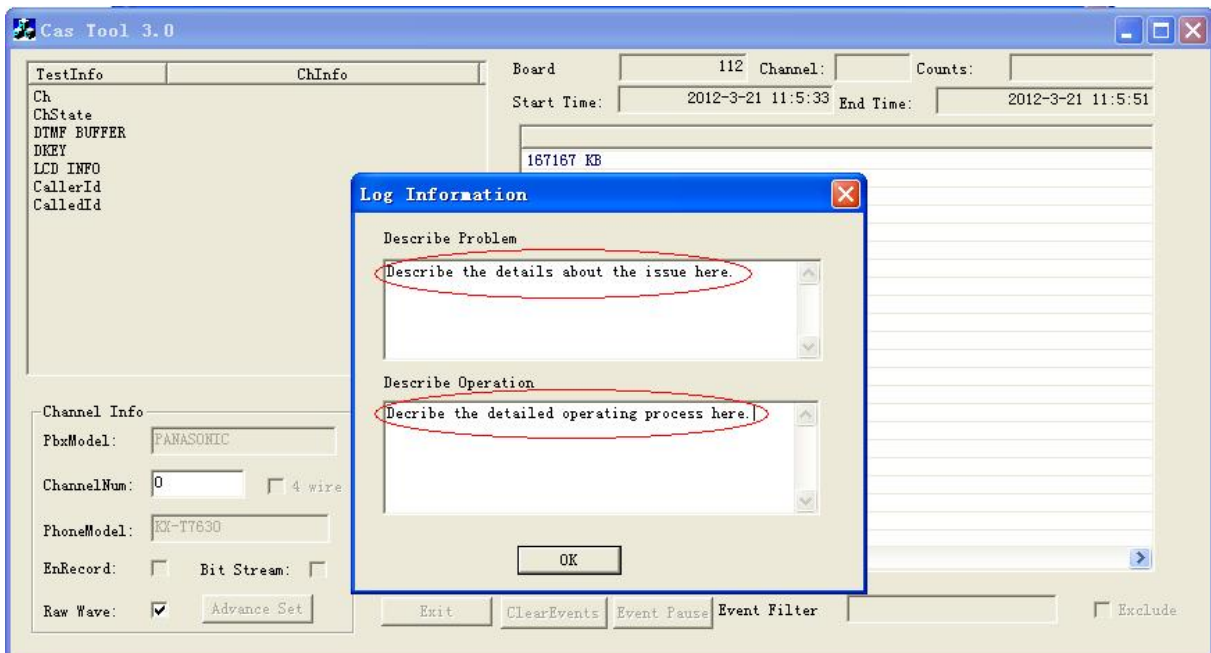

Figure 2-28
Step 8: Then the dialog box of 'Log Information' pops up as shown in Figure 2-28. Fill in the two items 'Describe Problem' and 'Describe Operation' and click on 'OK' upon completion. All the information you write will be saved to the end of the data file for our developer's analysis.